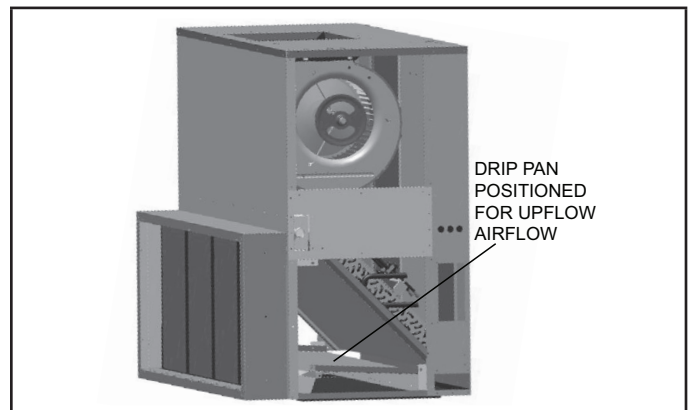

FIGURE 3. Drip Pan in Upflow Airflow Position
If the unit is installed for upflow airflow, the drip pan must be positioned as shown in figure 3.
- 4 - Move drip pan to location shown in figure 3. Ensure that insulation parts remain on the bottom of drip pan.